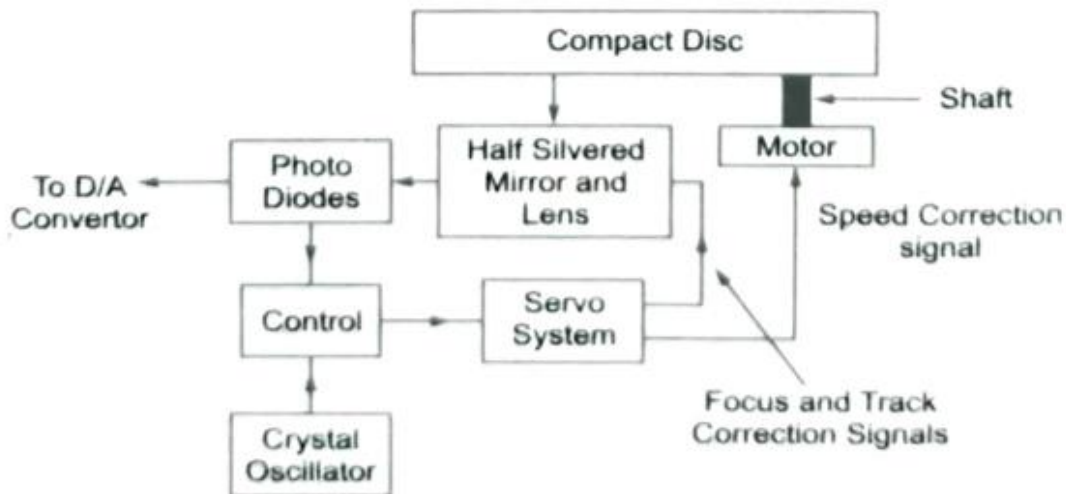

Fig. 10.5: Block Diagram of Pick up System in CD Player
- The block diagram of the optical pick up process is shown in Fig 10.5.